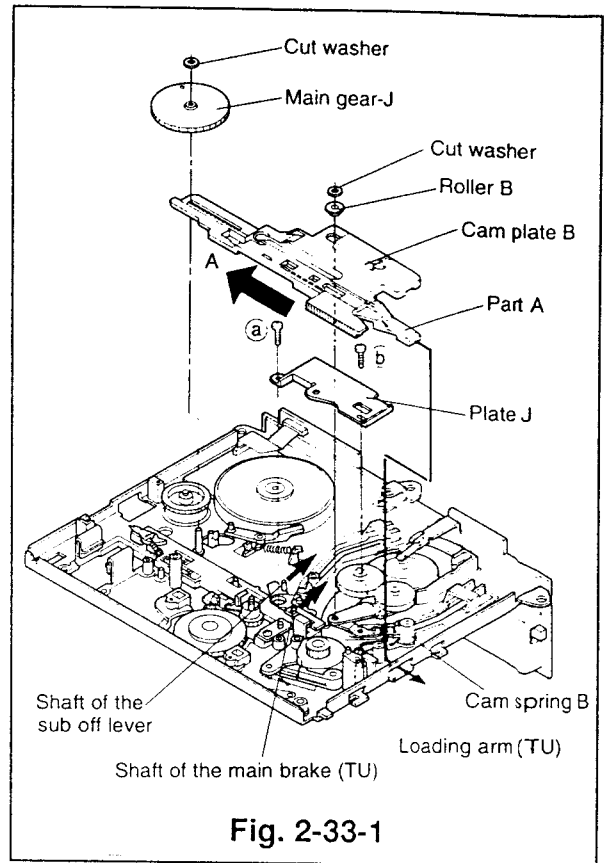

Fig. 2-33-1
- ① Remove the two screws (a) and (b) to remove the plate J. (Fig. 2-33-1)
- ② Take off the cut washer fixed to the shaft of the loading arm (TU) to remove the roller B.
- ③ Remove the reel belt. (Refer to Para. 2-28 for the removal method.)
- ④ Remove the belt pulley. (Refer to Para. 2-28 for the removal method.)
- ⑤ Remove the loading motor assembly (which holds the motor holder). (Refer to Para. 2-29 for the removal method.)
- ⑥ Remove the main gear J. (Refer to Para. 2-30 for the removal method.)
- ⑦ Slide the cam plate B to the left (the direction shown by the arrow) to remove it.
- ③ Passing part A of the cam plate B under cam spring B insert it into the hole on the side of the main plate, as shown by the continuous line. (Refer to Fig. 2-33-1)
- ④ While keeping the rear section of cam plate B raised, align the cam plate B and the cam gear R so that the ○ marks align with each other as shown in Fig. 2-33-3 (Fig. A). Still keeping the rear of cam plate B raised, slide it to the right until the △ marks on cam plate B and cam gear R align, refer Fig. 2-33-3 (Fig. B). From this position lower the rear of the cam plate B unto the already aligned loading gears TU and SP, refer 2above. Shift the sub off lever and the main brake TU in the directions shown by the arrows to install them. (Refer to Fig. 2-33-1)
- ⑤ Fix the roller B to the shaft of the loading arm (TU) and secure it with the new cut washer.
- ⑥ Install the plate J and secure it with the two screws (a) and (b).
- ⑦ Install the main gear J. (Refer to Para. 2-30 for the installation method.)
- ⑧ Install the loading motor assembly (which holds the motor holder). (Refer to Para. 2-29 for the installation method.)
- ⑨ Install the belt pulley. (Refer to Para. 2-28 for the installation method.)
- ⑩ Fasten the reel belt. (Refer to Para. 2-28 for the installation method.)